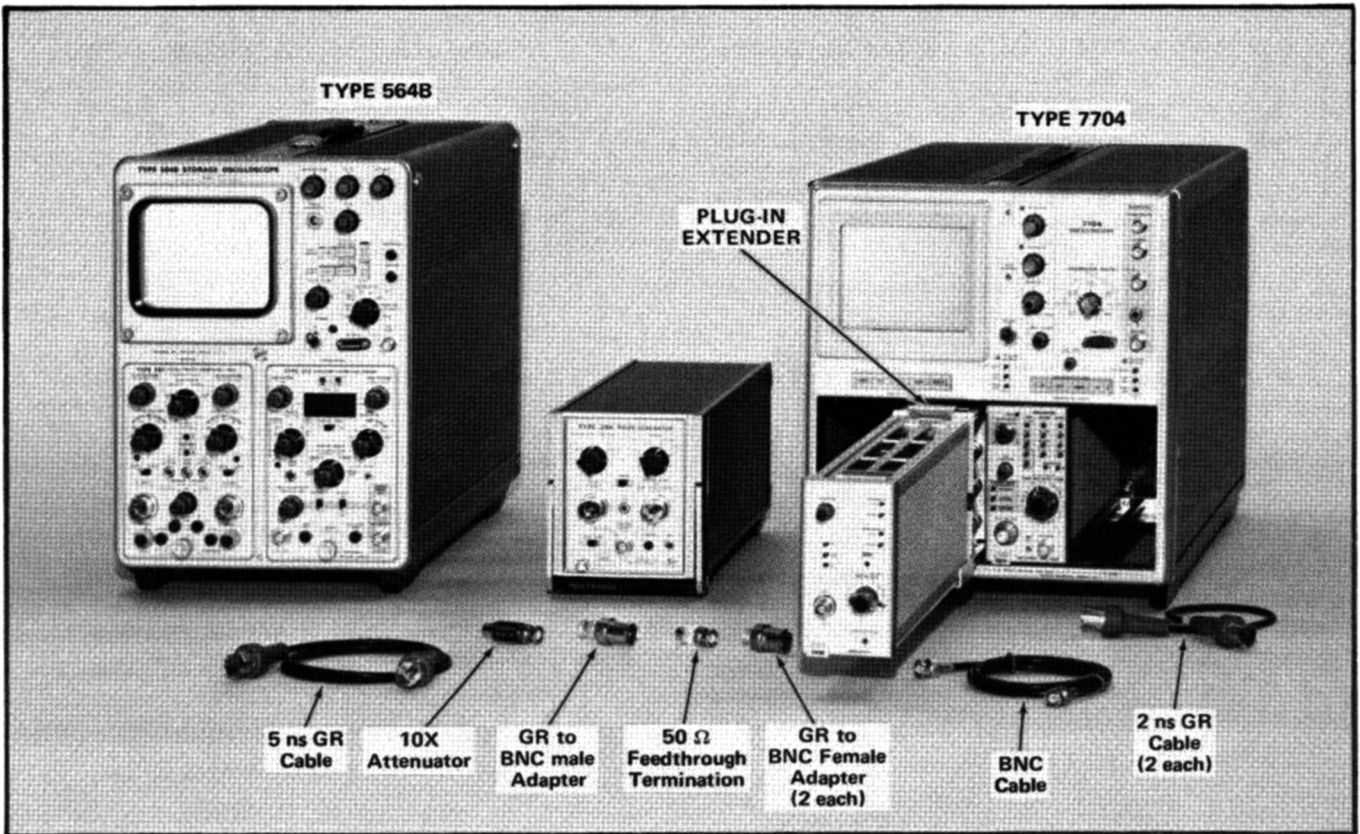

Fig. 5-3. Test equipment required for steps 15, 16 and 17.
- a. Test equipment required is shown in Fig. 5-3.